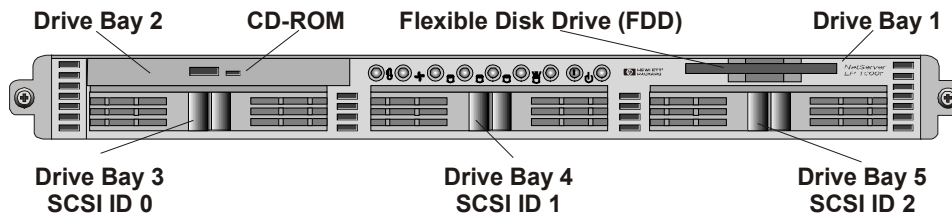

Figure 3-1. HP Netserver Drive Bays
The flexible disk drive and CD-ROM drive, which are standard on all models of the HP Netserver LP 1000r, occupy bays 1 and 2 respectively. See Figure 3-1.
- The addresses of the SCSI drives are automatically assigned by the drive bay location in the chassis. Refer to Figure 3-1.